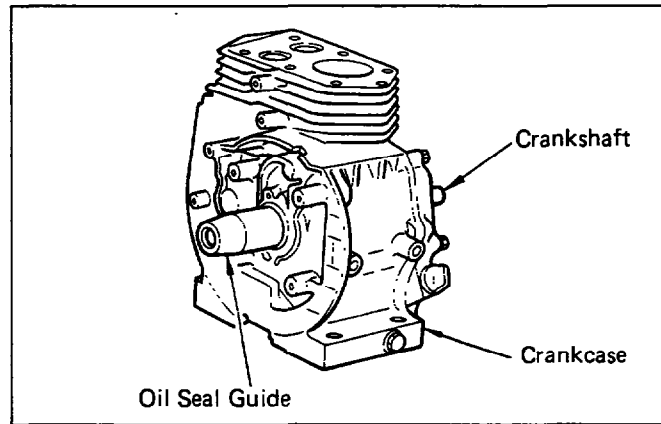

Fig 9-4-1
- (1) Fit the crankshaft oil seal guide onto the crankshaft tip and assemble it with the crank case as shown in Fig. 9-4-1.